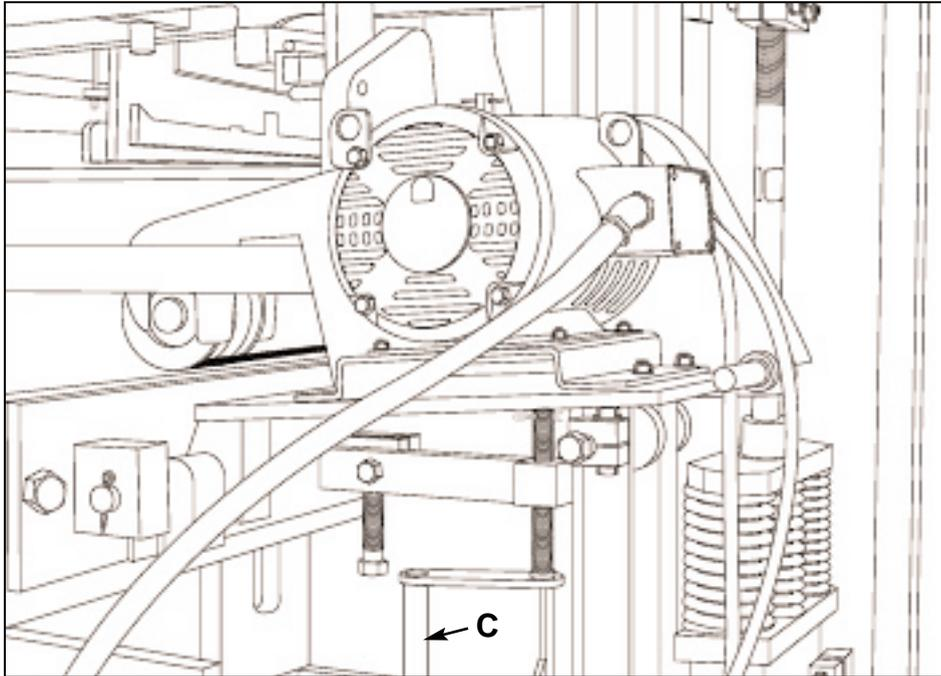

Figure 5.5 RAISING THE VIBRATOR MOTORS WITH SCREW JACK (C).
- 5.3.23 Raise both vibrator motors with screw jacks (C) (see figure 5.5).